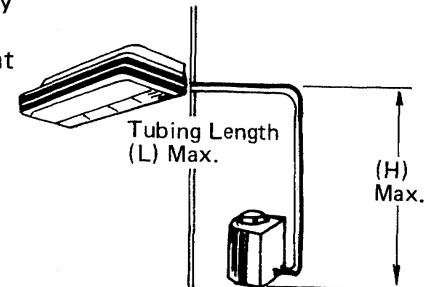

Fig. 1
- If the pipe length will exceed more than 50 ft., additional refrigerant charge is necessary. (Refer to the below table and Fig. 1)